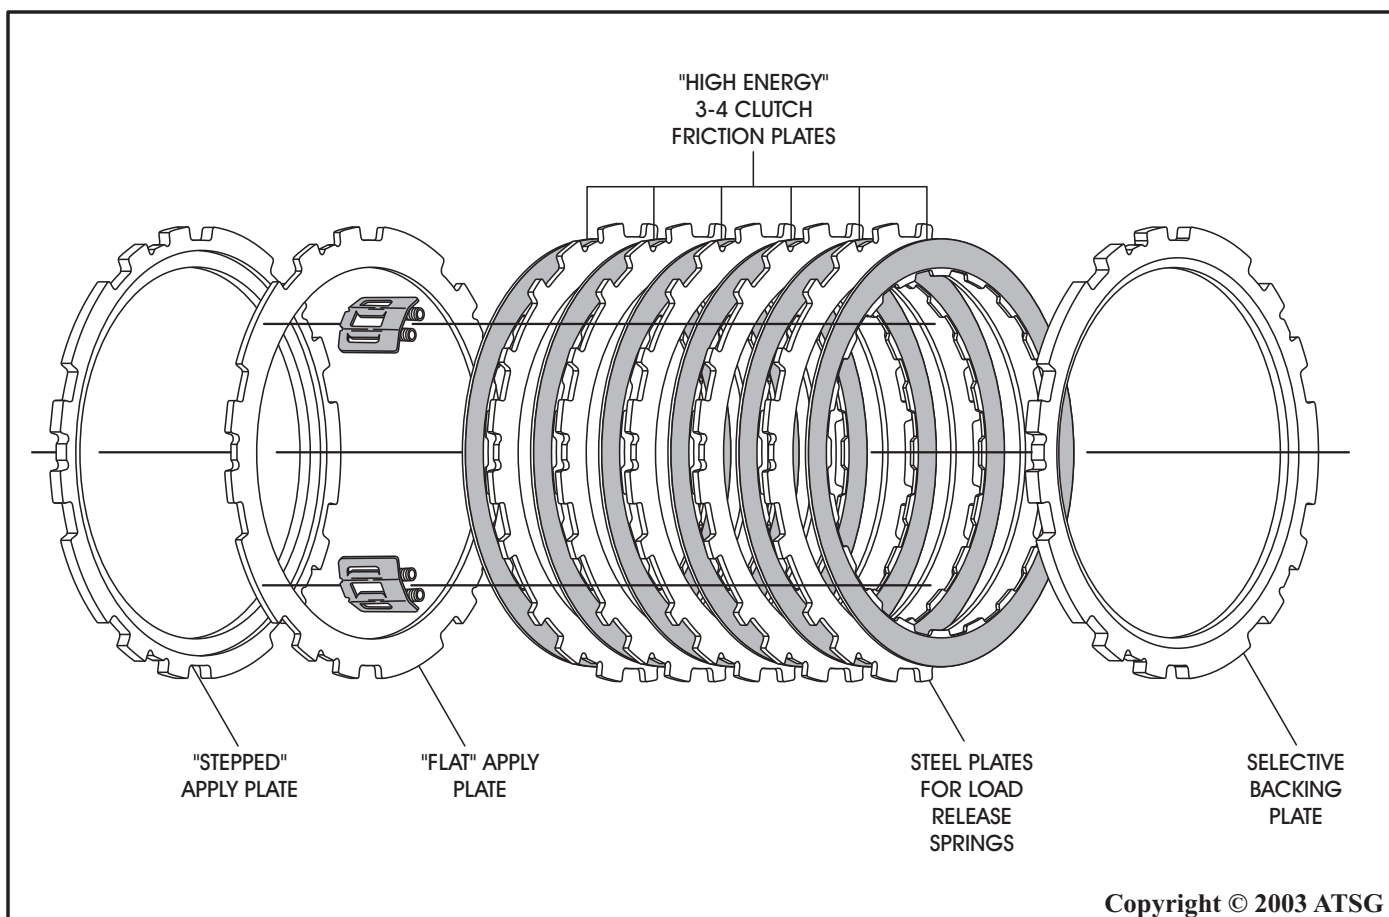

Figure 66
CHANGE: Beginning at start of production for 1991 models, new design 3-4 friction plates containing a "High Energy" friction material with increased heat capacity were implemented for *limited* applications, as shown in Figure 66. The 1991 models that received the new "High Energy" clutch plates were 1AMM, 1APM, 1CNM, 1CYM, 1FYM, 1KWM, 1LHM, 1RCM, RDM and 1YHM.
- (1) 3-4 FRICTION PLATES - Manufactured with a high energy friction material to reduce slippage and thus increase 3-4 clutch durability (See Figure 66).